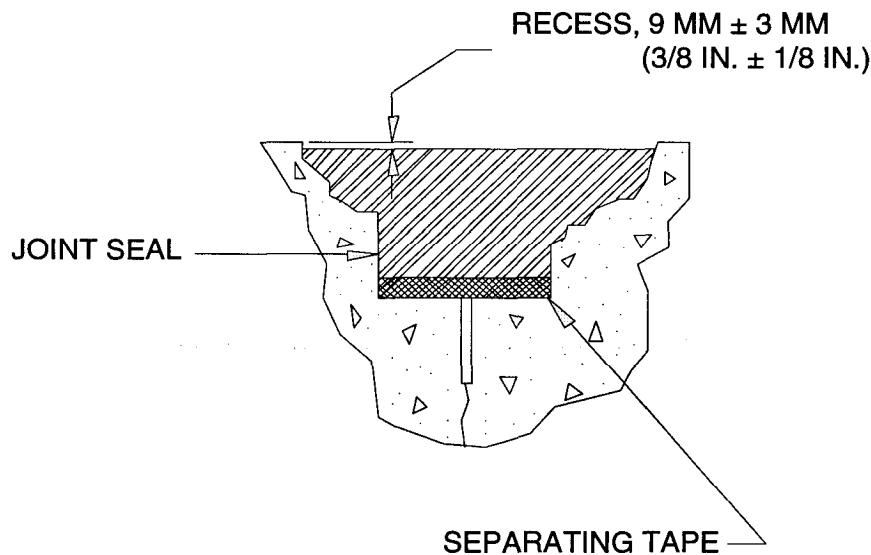

Figure 3. Repaired NCS Random Spall Area, Section of NCS Removed
**3.1.3. Section of Compression Seal Removed (Figure 3).**